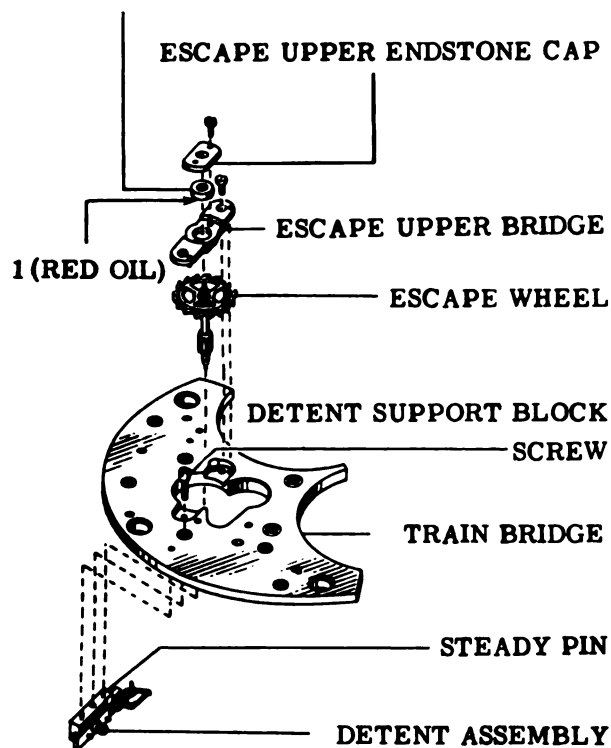

Figure 84
66. Subassemble escape upper endstone cap (number 1) to escape upper bridge with two screws. See Fig. 84 for proper positions.
67. Oil escape upper jewel with red oil. See arrow No. 1 in Fig. 84.
69. Lower escape upper bridge into place and install two escape upper bridge screws. Refer to Fig. 84 for position of parts. Check endshake of the escape which should be 0.001 to 0.003 in.